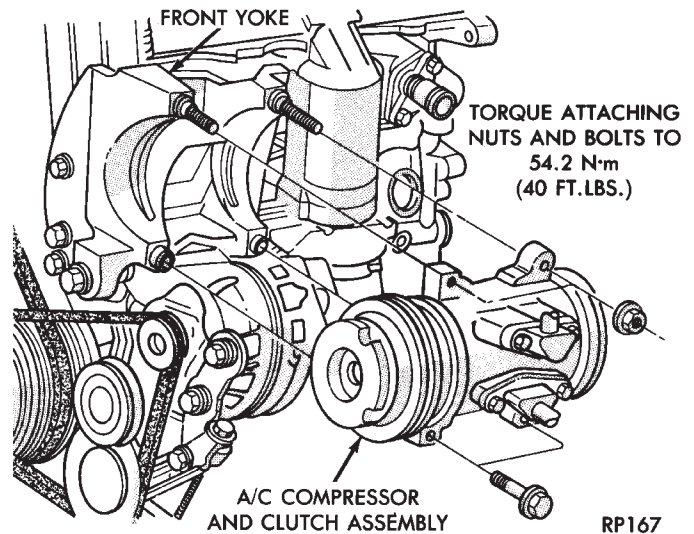

Fig. 1 A/C Compressor Removal and Installation—2.5 L Engines
- (1) Disconnect negative battery cable.
- (2) Loosen and remove drive belts (refer to Group 7, Cooling System) and disconnect compressor clutch wire lead.
- (3) Remove refrigerant lines from compressor (if necessary).
- (4) Remove compressor attaching nuts and bolts (Fig. 1).
- (5) Remove compressor. If refrigerant lines were not removed, lift compressor/clutch assembly and tie it to a suitable component.